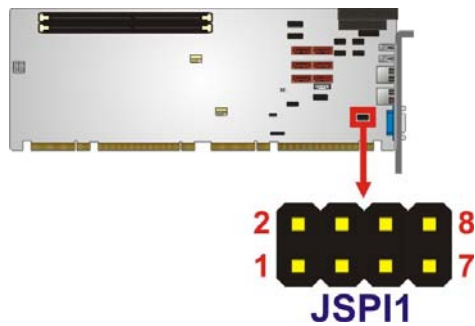

Figure 3-13: SPI Flash Connector
- CN Location:** See **Figure 3-13**